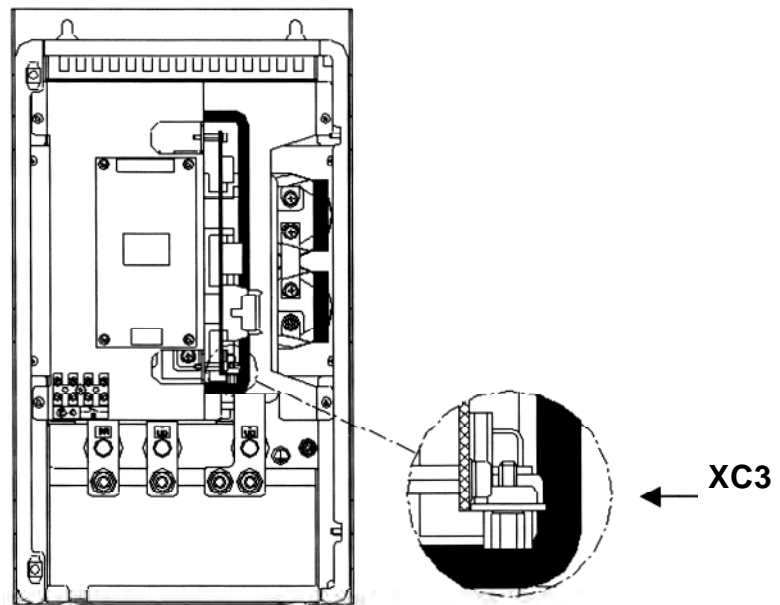

Figure 8.33 - Location of the XC3 connector
- ☑ The control connection between the CFW-09 and the braking module is made through a cable (0307.7560). One end of this cable is connected to the XC3 connector that can be found at the CRG4 board (refer to figure 8.33 ) in the braking module. The other end of this cable is connected to a DB9 connector that is fastened to a metallic support at the side of the control board in the CFW-09.